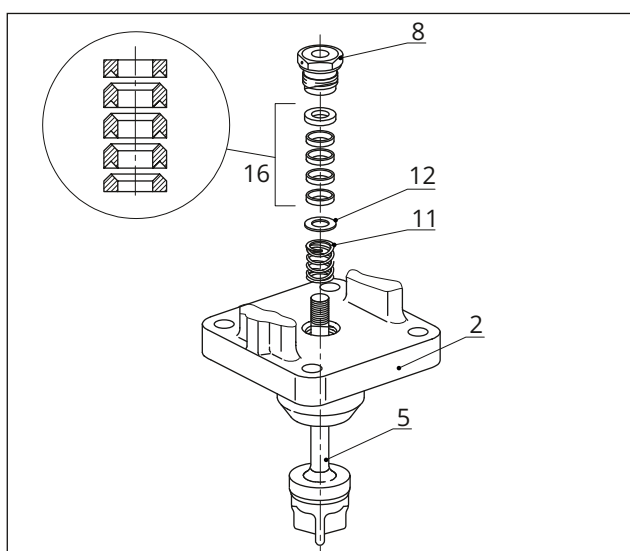

Fig. 26: Standard packing
10. Place the flange (2) onto the body.
11. Carefully slide the packing parts over the plug stem into the packing chamber using a suitable tool. Observe the proper sequence (see Fig. 26).
9. Carefully slide the packing parts over the plug stem extension into the packing chamber using a suitable tool. Observe the proper sequence (see Fig. 26).
10. Fasten the valve bonnet with nuts (33) and bolts (32). Observe tightening torques.
11. Screw in the threaded bushing (8) and tighten it. Observe tightening torques.
12. Loosely screw the lock nut (10) and stem connector nut (9) onto the plug stem.
13. Place the flange (2) onto the body.
14. Carefully slide the packing parts over the plug stem into the packing chamber using a suitable tool. Observe the proper sequence (see Fig. 26 and Fig. 27).
15. Firmly press the plug (5) into the seat (4). Fasten down the flange (2) with the body nuts (14). Tighten the nuts gradually in a crisscross pattern. Observe tightening torques.
16. Screw in the threaded bushing (8) and tighten it. Observe tightening torques.
17. Loosely screw the lock nut (10) and stem connector nut (9) onto the plug stem.